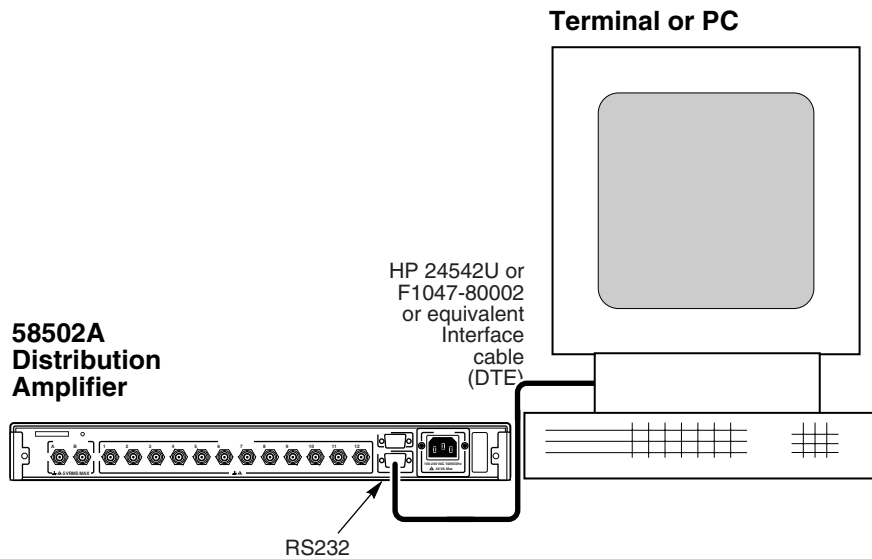

Figure 1-2. Connecting a PC or Terminal to the 58502A
- 1 *If you are going to communicate with the 58502A using a terminal or PC (personal computer), connect the computer to the rear-panel **RS232** port using an HP 24542U interface cable (or equivalent RS-232 null-modem cable with DE-9S female connectors at each end) as shown in Figure 1-2.*